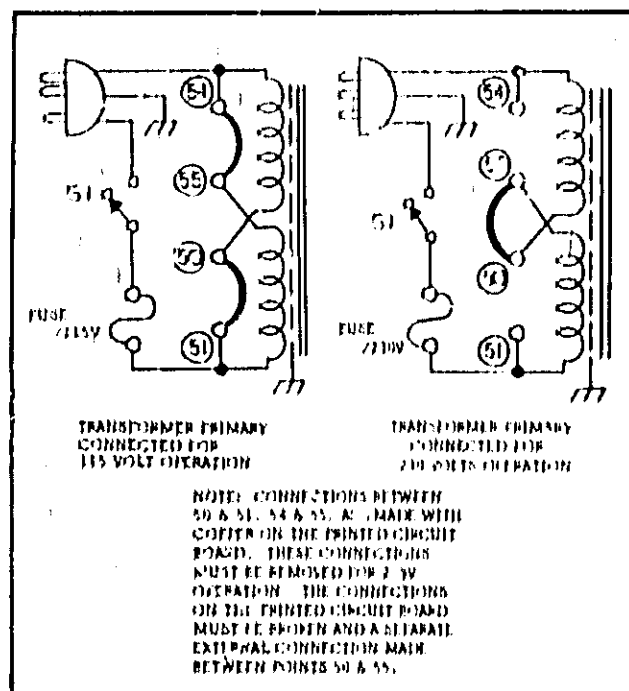

Figure 2-3. Primary Connections
#### 2-17 CONNECTIONS FOR 230 VOLT OPERATION (See Figure 2-3)
b. Break the copper between 54 and 55 and also between 50 and 51 on the printed circuit board. These are shown in Figure 2-3, and are labeled on copper side of printed circuit board.